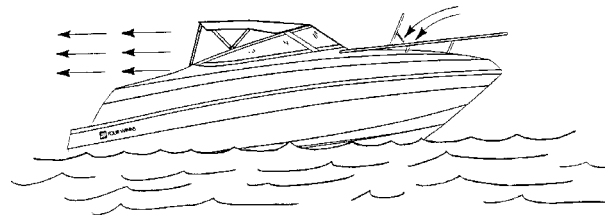

Figure B11: Desired air flow through the boat.
4. Opening and closing ports, hatches, doors, and windows may raise or lower CO levels on board a boat. See Figures B11 and B12.